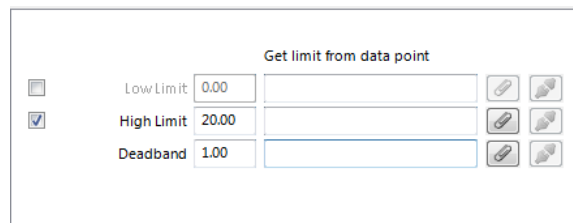

Figure 56: Alarm Condition for an Analog Value Condition.
11. For an analog value condition fill in the alarm condition as shown in Figure 56. Select **Low Limit** and **High Limit** and put check marks, if they shall be employed. Enter a **Deadband** to account for hysteresis. Attach or detach data points for those limits. This can also be done by editing the property relations ‘lowLimit’, ‘highLimit’, and ‘deadband’, respectively (see Section 4.2.8).